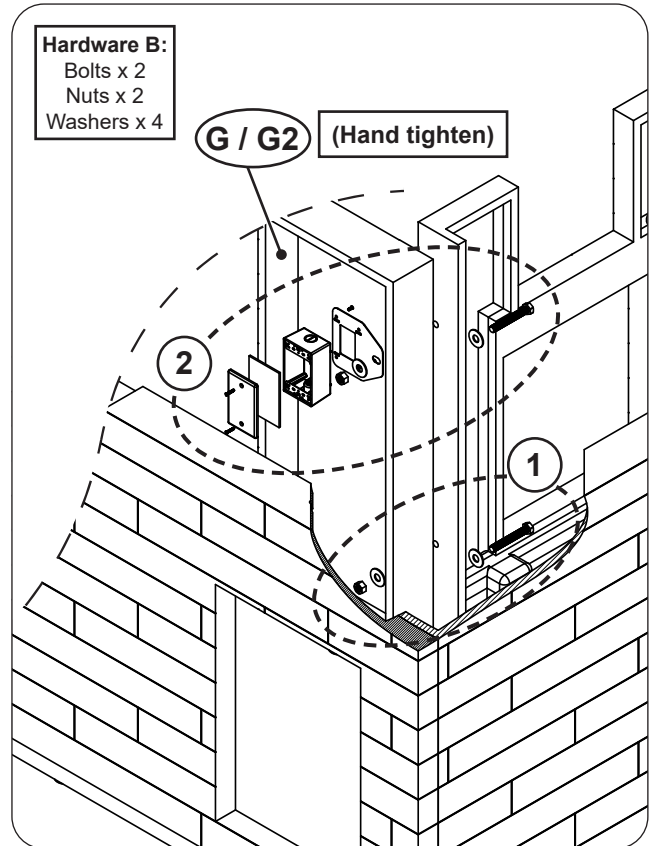
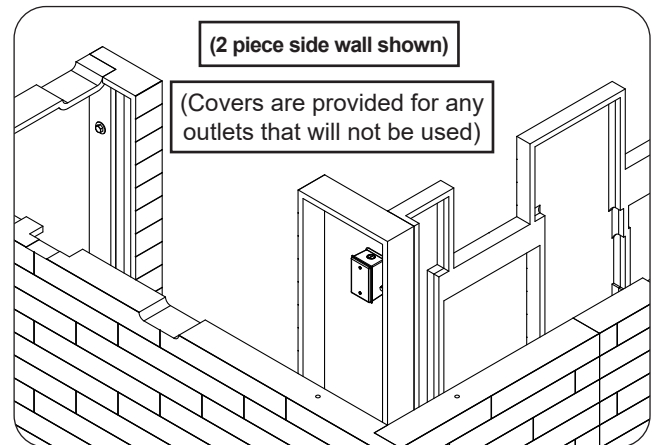

Fig. 13-1 Assemble side wall and outlet box
Fig. 13-2 Side wall and outlet box installed
Orient the other end of side wall (G), OR the separate side wall (G2), and repeat the hardware installation process (hardware kit B) for the bottom hardware first. Ensure the top pilot holes are also aligned. Hand tighten only. See Fig. 13-1, step 1.
An outlet box assembly is provided and requires installation. Assemble the box as shown (using a flathead screwdriver), then repeat the hardware installation process to secure both the top of the wall and the outlet box in place. Hand tighten only. See Fig. 13-1, step 2, and Fig. 13-2.